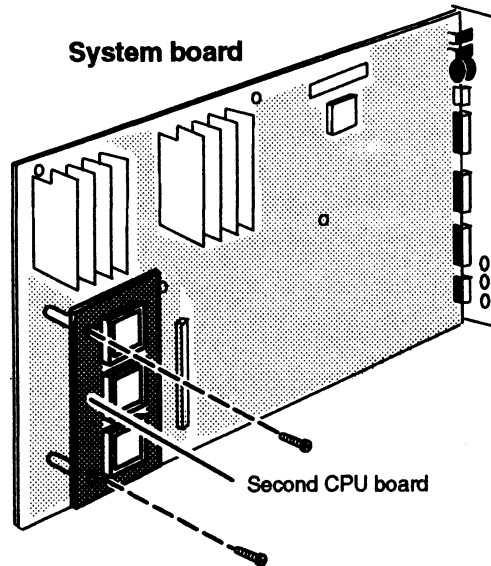

Figure 8-3 Removing the CPU Option Board Screws
1. Remove the two screws, shown in Figure 8-3, that secure the CPU board to the system board.